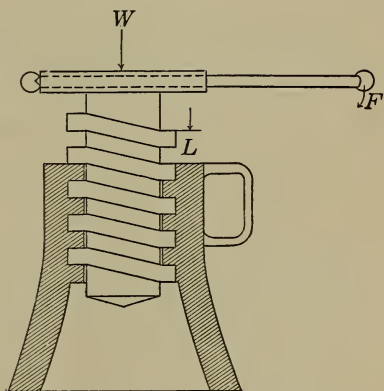

FIGURE 271.—A JACK SCREW.
**288. Screw and Wedge.** — The screw and the wedge are both very much the same as the inclined plane. As is shown by Figure 271, the screw is merely a spiral inclined plane which